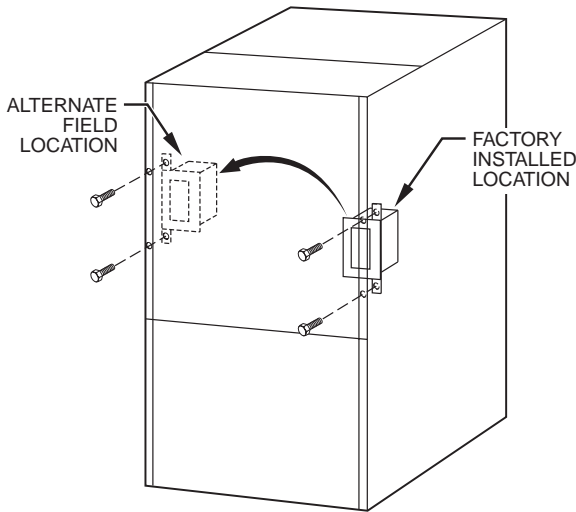

Fig. 30—Relocating J-Box
1. Remove 2 screws holding auxiliary J-box. (See Fig. 30.)